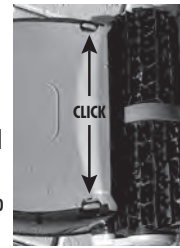

FIGURE 10
- Press the rear section of the bottom lid into the cleaner while pushing the locking clips towards the edge of the cleaner until an audible click is heard as shown in Fig 10.